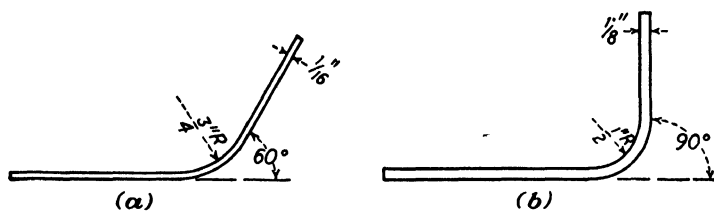

Fig. 242.
4. Find the bend allowance for each of the fittings shown in Fig. 242.